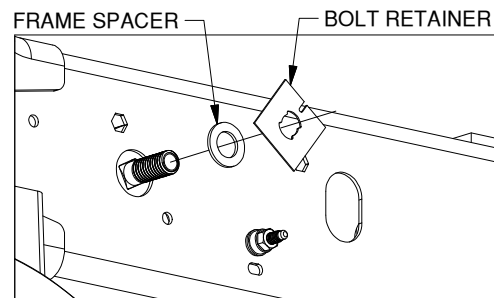

Figure B3: View looking at driver side frame.
3. **Pull fish wire through frame.** With the fish wire through the locking strap, push the locking strap completely into the frame. Next, pull the carriage bolt into the frame. Continue pulling on the fish wire until the threaded portion of the bolt is sticking out of the frame. Push the circle frame spacer over the carriage bolt and into the hole in the frame. The spacer will locate the bolt within the center of the hole. While keeping the bolt from falling into the frame, remove the fish wire from the end of the bolt. Thread the bolt retainer onto the bolt and tighten until it is flush with the outside of the frame. The spacer must be inside the frame hole and not stick past the face of the frame, see Figure B3.